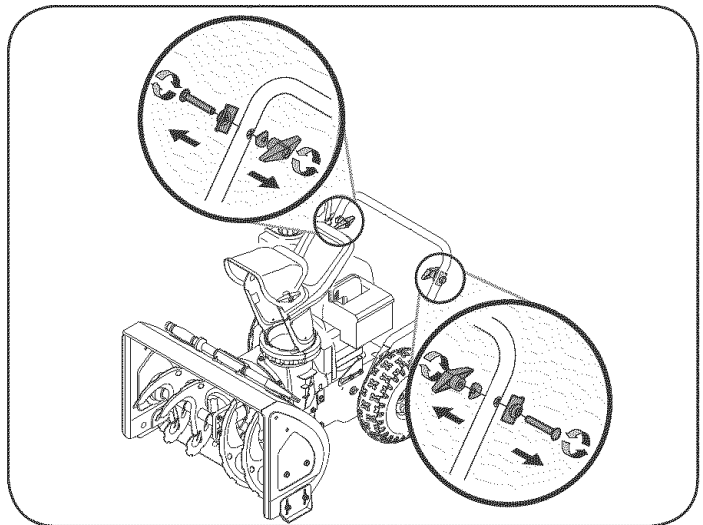
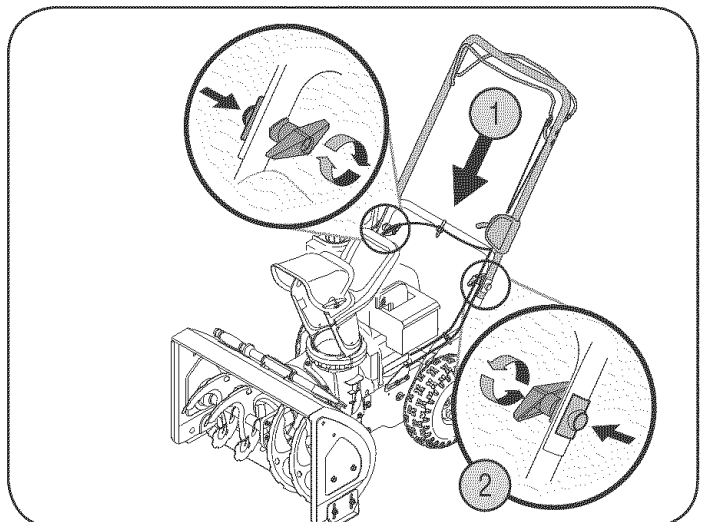

Figure 2
Figure 3
2. Loosen and remove the wing knob, saddle washer, handle tab and carriage screw on each side of the lower handle. See Figure 2.
4. Lift the upper handle up and position it over the lower handle, aligning the holes where the wing knobs were removed (1).
5. Insert a carriage screw from the outside through a handle tab, the upper and lower handles, a saddle washer and into the wing knob (2). Repeat on the other side.
6. Tighten the wing knobs on each side of the handle. Refer to Figure 3.